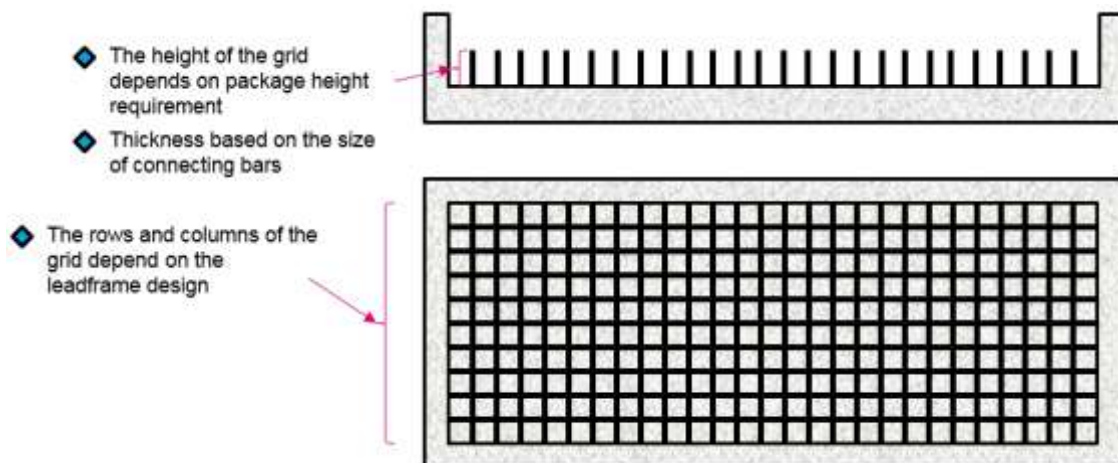

Fig. 3. Augmented mold tool design.
- An augmented and improved mold tool design showcased in Fig. 3 paved way for a specialized cutting technique for QFN leadframe assembly, this time without the use of mechanical blade to singulate or separate the unit individually